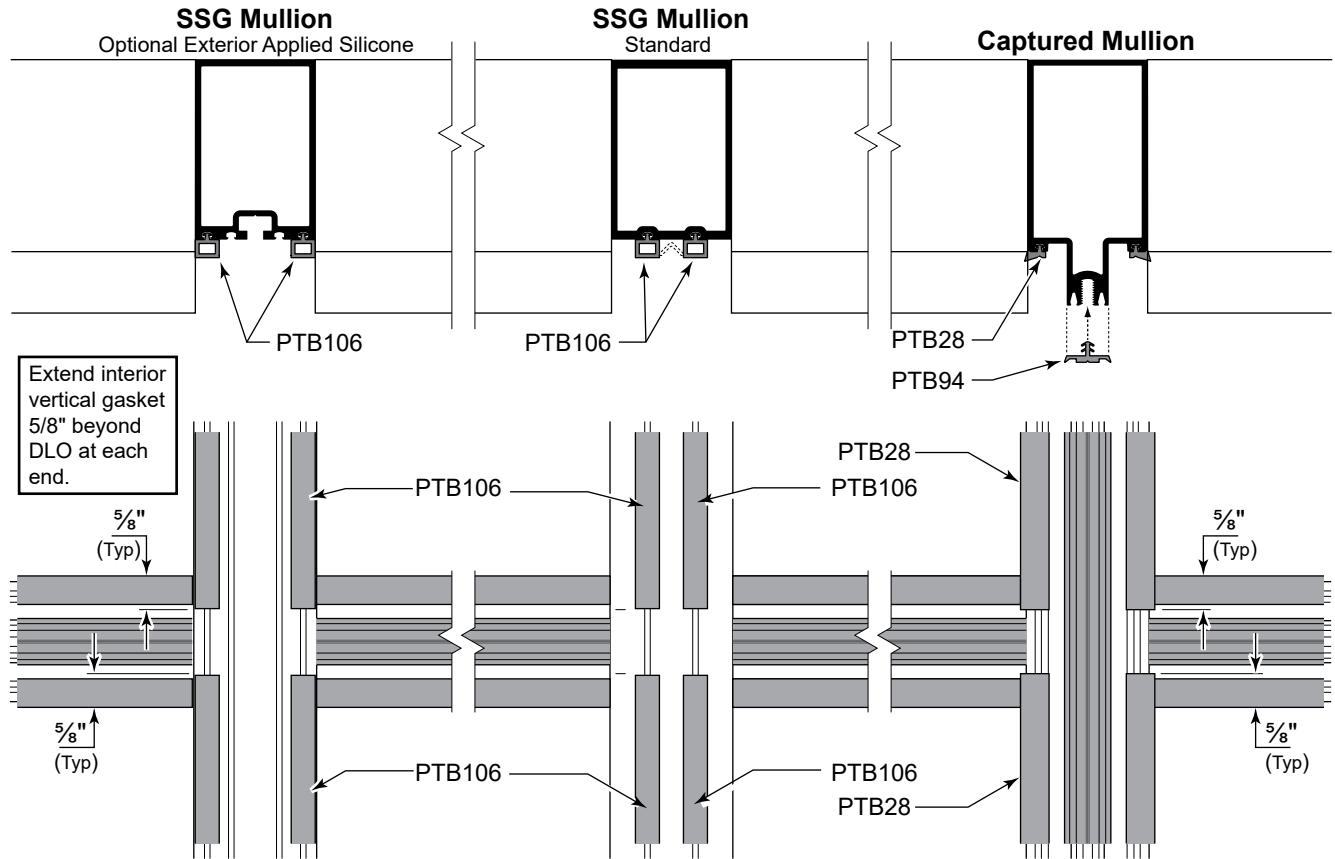

Fig. 43.1
- B. Install PTB28 gasket into vertical mullions. See **Fig. 42.3** and **Fig. 43.1**. Vertical mullion gaskets run beyond the horizontals. Run the vertical gasket through the vertical splice joint, setting in fresh sealant at the splice. Notch darts off the gasket as required for proper fit.
- E. For SSG vertical applications, remove the joining legs on PTB106 SSG spacer gasket. See **Fig. 42.2**. Install into vertical mullion with equal overlap into each horizontal pocket. See **Fig. 43.1**.